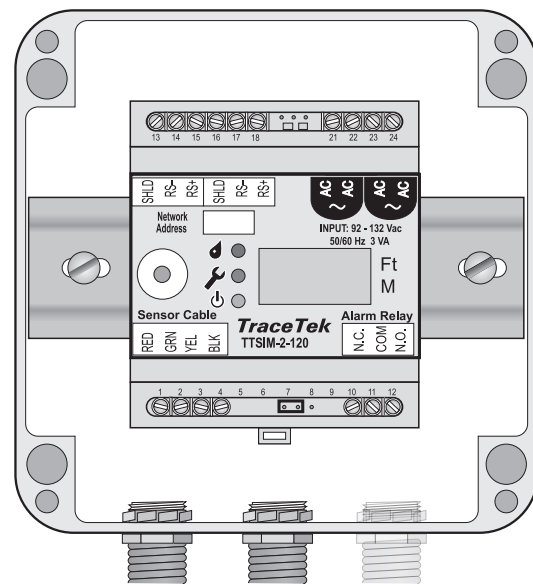

Figure 2. NEMA 4X enclosure
### Mounting the TTSIM-2 module in the optional NEMA 4X Enclosure – Figure 2
- A typical outdoor or harsh environment installation will require three holes in the TTSIM-ENC: one for inbound power and telemetry, one for outbound power and telemetry and one for the sensor cable leader. See Figure 2.